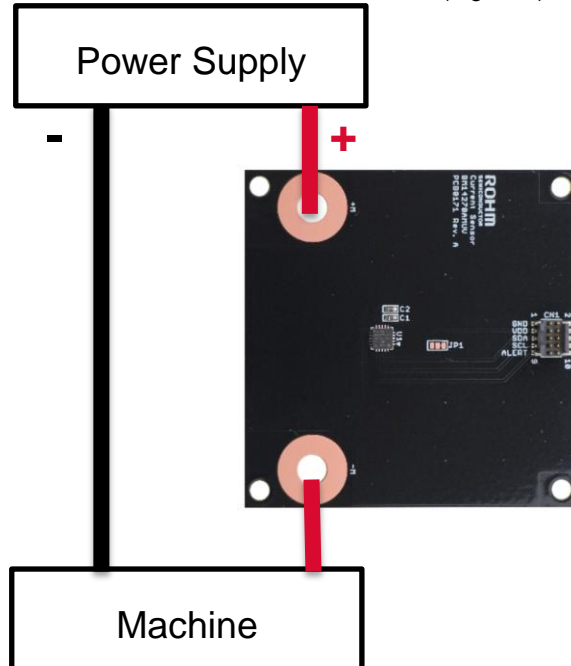

Figure 7. Connection board example
6. Set the board between current line (Figure 7)